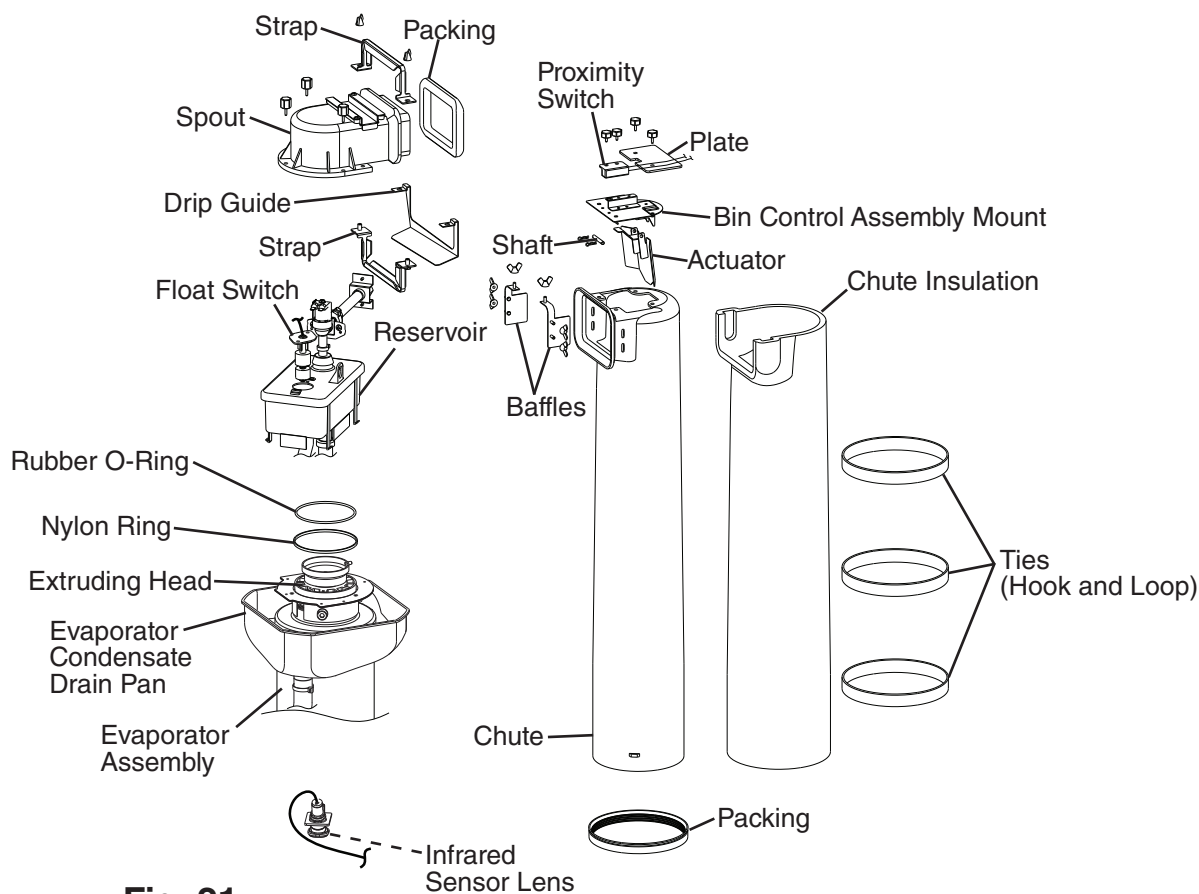

Fig. 21
- 6) Remove the strap connecting the spout to the chute assembly, then remove the spout. See Fig. 21.